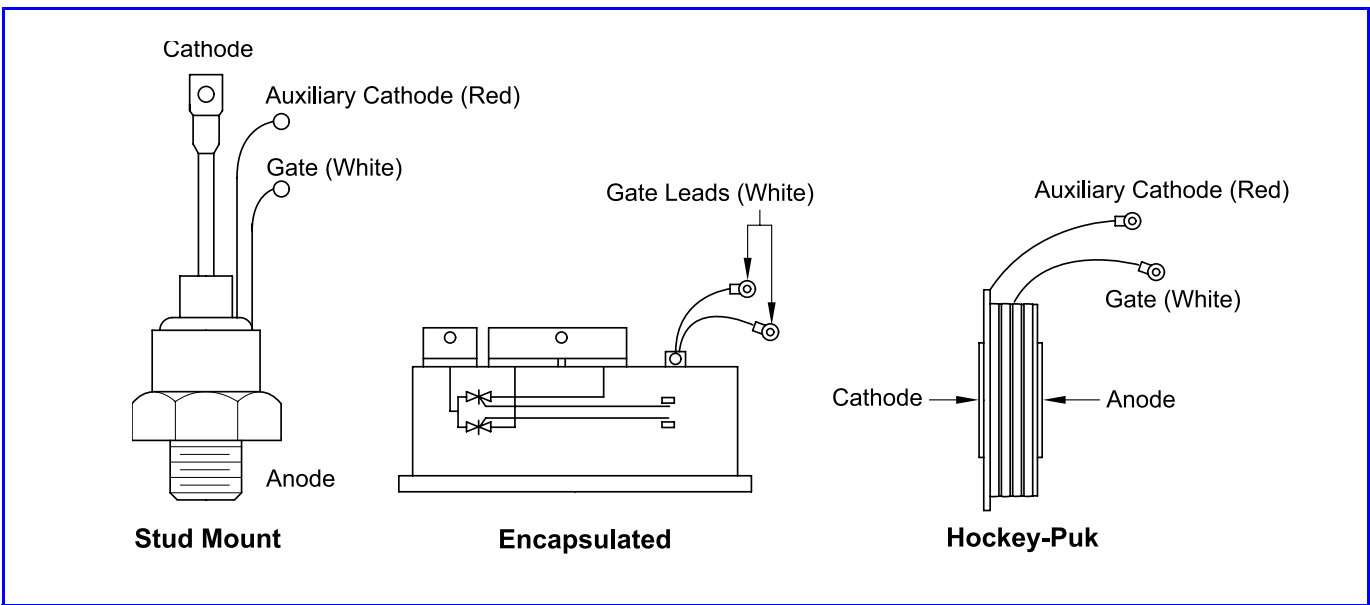

Figure 20 SCR Terminal Identification
3. Identify SCR terminals. See **Figure 20**.